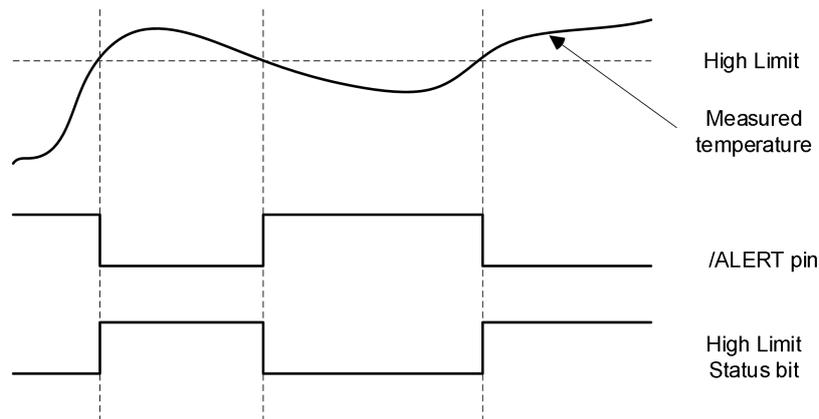

Figure 11. /ALERT pin output in comparator mode
Below Figure 11 shows the mechanism of the /ALERT output in comparator mode. In this mode, the /ALERT pin will be asserted (active low) by writing '0' into bit7 (ALERT_MSK) of Configuration register [0x03] during ALERT trigger. And /ALERT pin can be released by any of below 2 conditions: (1) Temperature is kept between higher and lower limitations. (2) Set bit7 of Configuration register [0x03] as '1'. In this mode, for bit7 of Configuration register [0x03] readout value is same as written value.